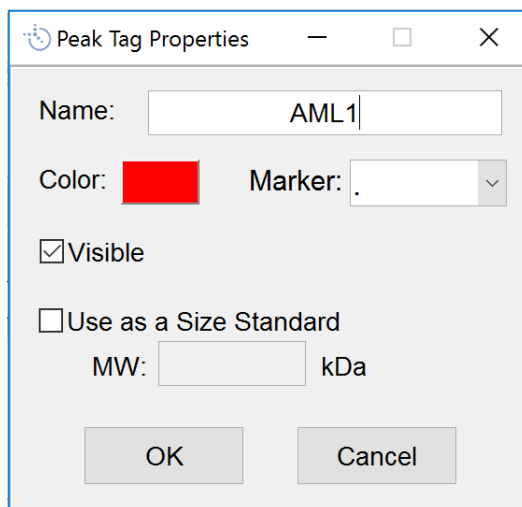
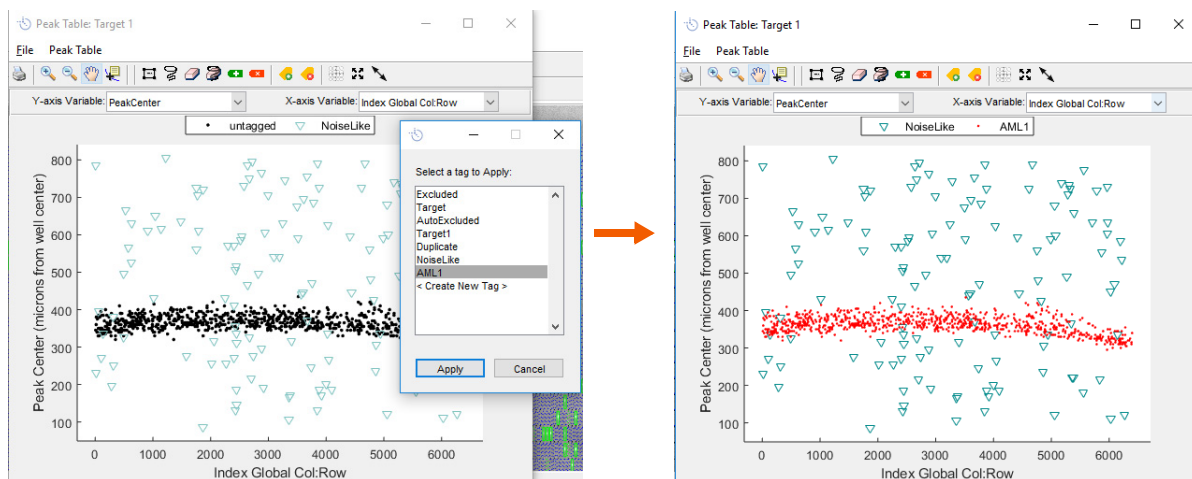

Figure 4-11: Creating a new peak tag.
Figure 4-12: Applying a peak tag to the selected peaks.
- f. Select the new tag in the pop-up window to apply it to the selected peaks. In the example shown in Figure 4-12, the “AML1” tag created in Figure 4-11 was applied to the selected peaks (peak center around 375 microns) in the Peak Table.